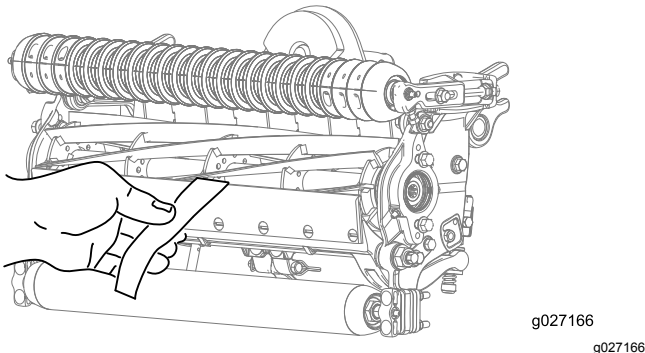

Figure 7
2. Test the cutting performance by inserting a long strip of cutting performance paper (Part No. 125-5610) between the reel and the bedknife, perpendicular to the bedknife (Figure 7). Slowly rotate the reel forward; it should cut the paper.